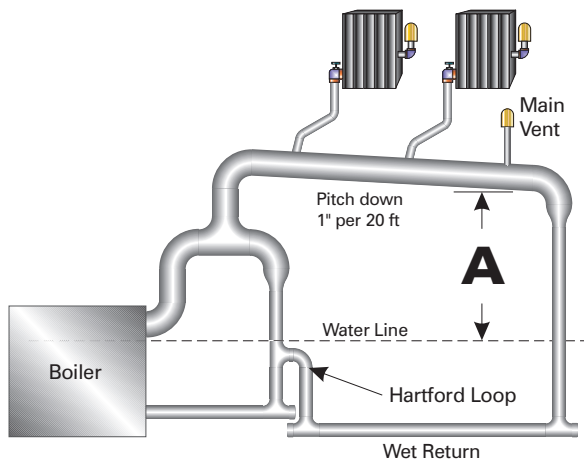

Figure 3: Parallel Flow Gravity, Wet Return
- Parallel Flow (Figures 3 and 4)